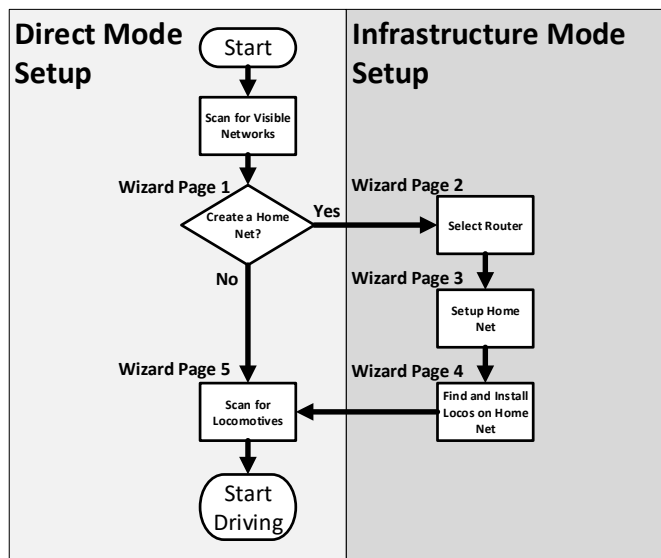

Figure 3 The steps through the Install Wizard
- (3) If this is the first time you have run Loco Operator, you will automatically be taken to the Settings page and the Install Wizard will run.
- (4) The steps in the Wizard are explained on each screen. The flow chart in Figure 3 should be helpful.
Figure 3 shows the steps that the Install Wizard will take you through for Direct Mode Set-up and Infrastructure Mode Set-up. It's much easier to set up in Direct Mode first.